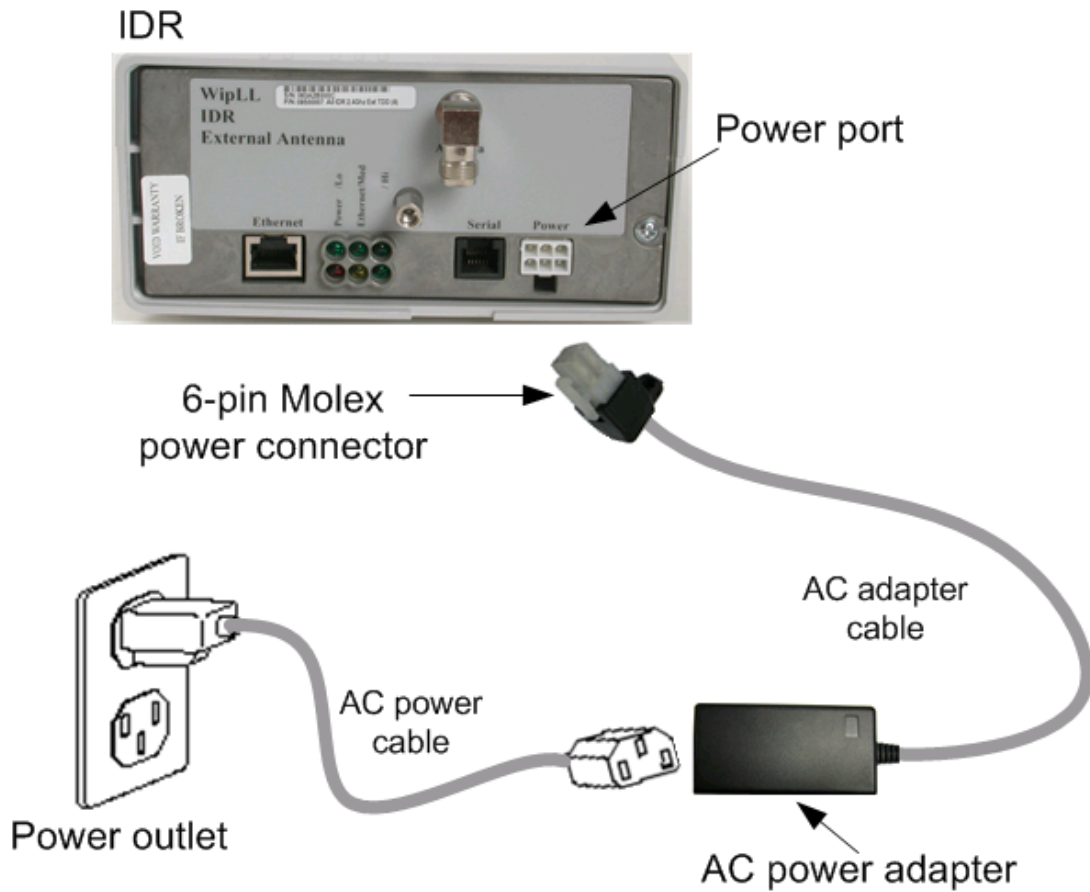

Figure 10-15: Connecting power to the IDR
1. Plug the AC power adapter’s **6-pin Molex** connector into the IDR’s power port labeled **Power** (see Figure 10-15).
2. Plug the **AC power plug female**, at the one end of the AC power cable, into the AC power adapter’s socket (see Figure 10-15).
3. Plug the **AC power plug male**, at the other end of the AC power cable, into the electrical outlet (see Figure 10-15).